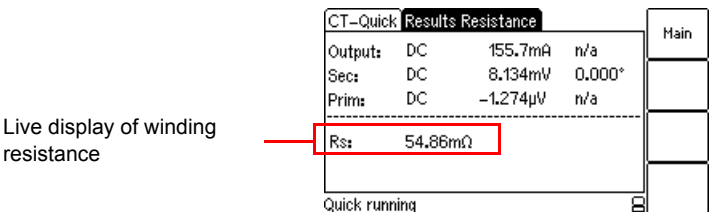

Figure 8-18 **Results** test card for VT winding resistance measurement
4. Start the measurement by pressing the **I/O** key on the *CT Analyzer* or clicking the **ON** button on the **Resistance** tab of the *CTA QuickTest* software. The measured values are displayed and permanently updated as long as the measurement is active. Refer to Figure 8-18.